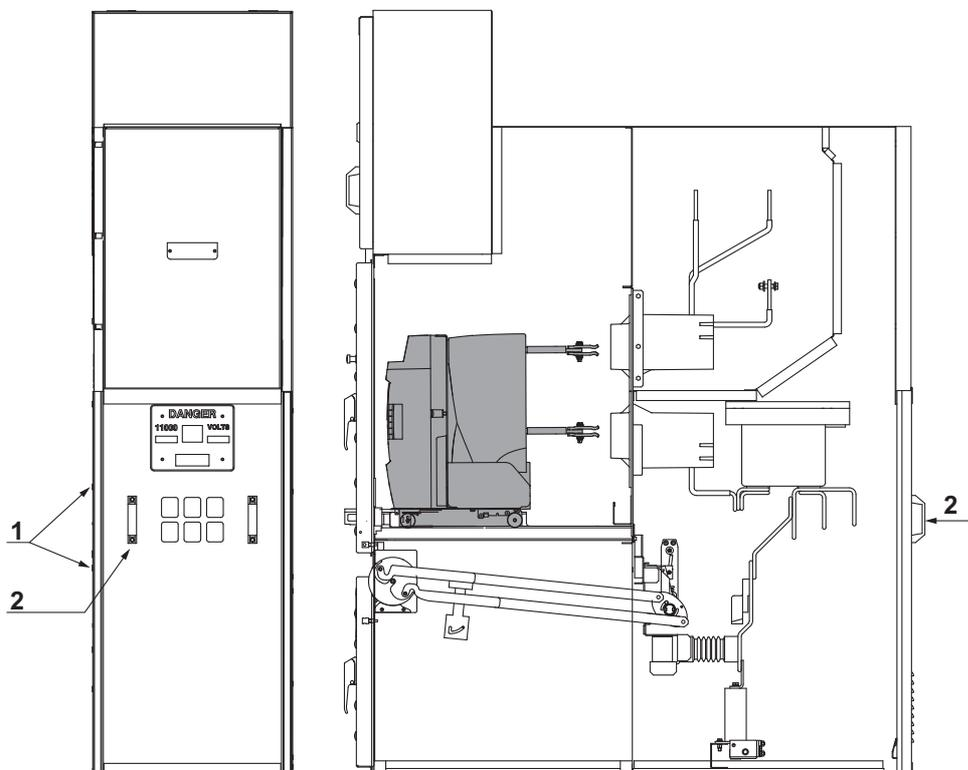

Figure 24
1	Remove the securing screws of the cable compartment cover (see item 1 in Figure 24).
2	Remove the cable compartment cover - Lift and remove (see item 2 in Figure 24).